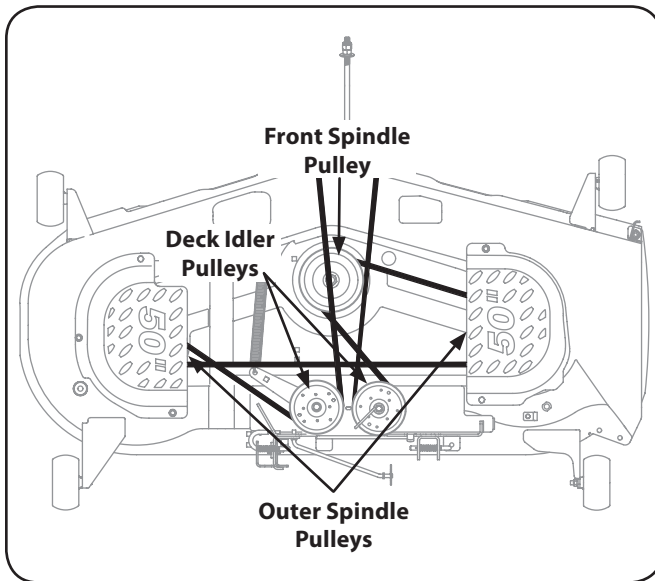

Figure 7-8
5. To place the new belt begin by routing the belt around the two outer spindle pulleys, then around the front spindle pulley as shown in Fig. 7-8.
6. Then route the belt around the two deck idler pulleys as shown in Fig. 7-8.